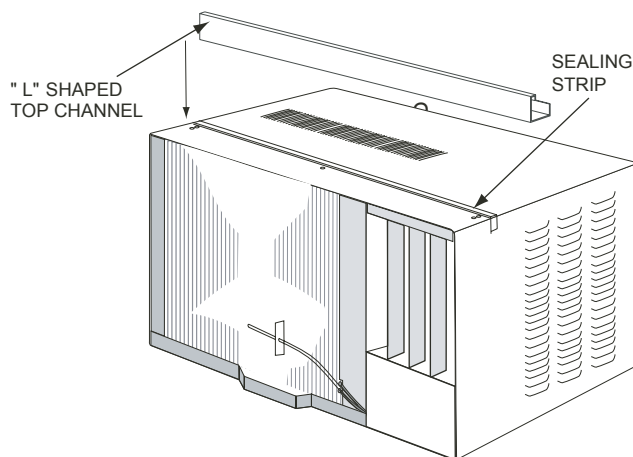
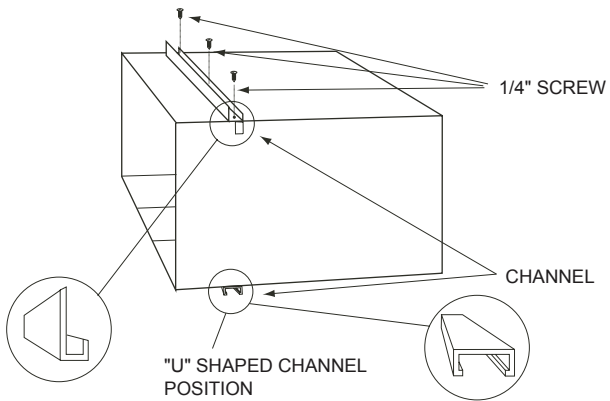

FIGURE 5 — TOP CHANNEL LOCATION
FIGURE 6 — TOP AND BOTTOM CHANNEL INSTALLATION
7. Cut sealing strip (provided) to match length of top channel. Save remaining seal strip for use in Steps 14 and 22. Peel and stick one side of the sealing strip on to the top channel (provided) as shown in Fig. 5. Use 1/4-in. screws (provided) to attach top channel to cabinet. Top channel may require 4 or 5 screws depending on model. See Fig.6.
8. Attached the bottom channel (provided) to the bottom of the cabinet. Use four 1/4-in. screws (provided). Screws are installed from the inside of the cabinet to the outside to attach the bottom channel. See Fig. 6.